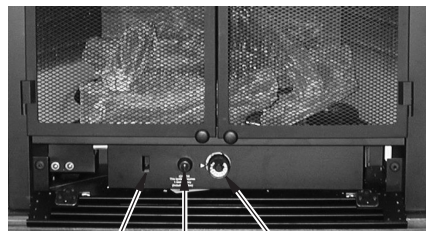

Figure 21 - Heater Control Locations
4. Turn control knob clockwise  to the OFF position (see Figure 21).
5. Wait five (5) minutes to clear out any gas. Then smell for gas around heater and near the floor. If you smell gas, STOP! Follow "B" in the safety information above. If you do not smell gas, go to the next step.
6. Turn control knob counterclockwise  to the PILOT position. Press in control knob for five (5) seconds.